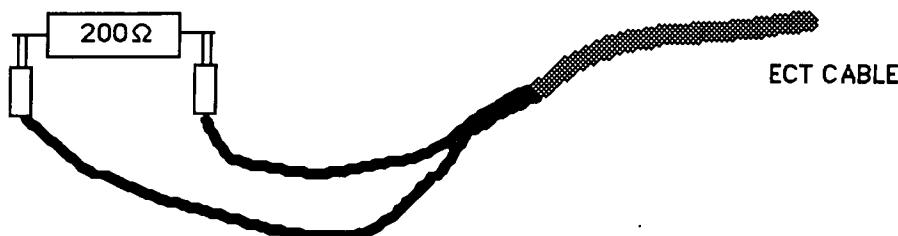

fig. 3.1
- 3.1 Connect DUMMY LOAD (200 ohms 10W resistor) to the ECT banana plugs. See Fig. 3.1